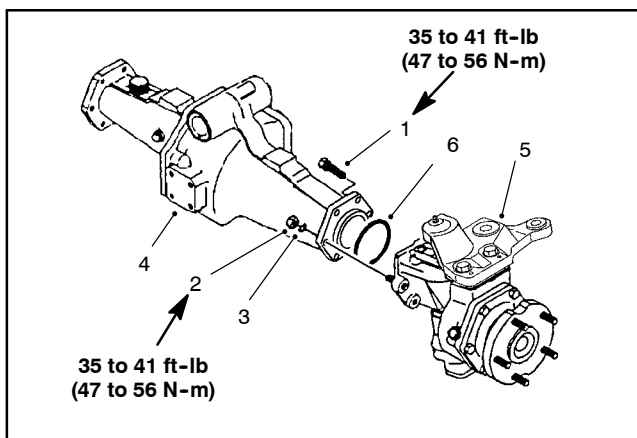

Figure 11
1. Remove the mounting screws, nuts, and lock washers. Remove the bevel gear case/axle case assembly and O-ring from the axle support (Fig. 11).